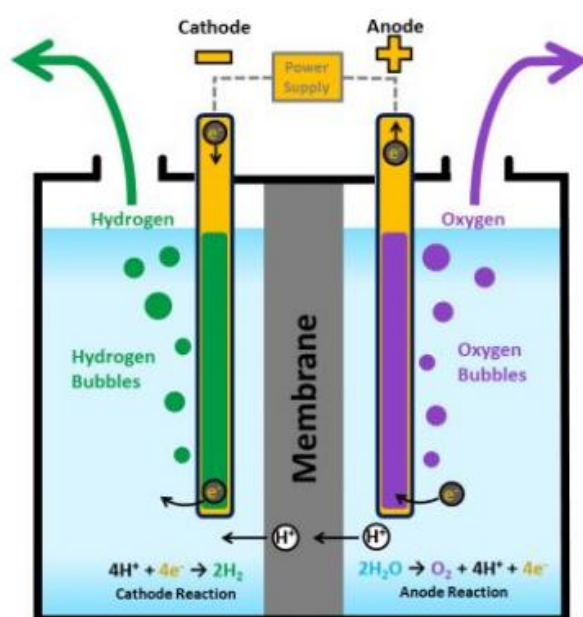

Fig. 1.13: Hydrogen production through electrolysis
1. **Production:** As we discussed in previous sessions, green hydrogen is made by splitting H_2O using electricity from the renewable resources like sun, wind, or water. This is done in a process called electrolysis (Fig. 1.13), which does not create CO_2 .